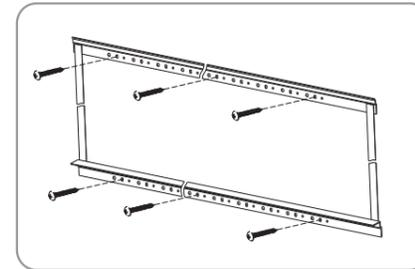

figure 11
- a. Wood wall installation: fix the top and low bracket on the wall using the $\phi 5 \times 60$ mm wood screw (3 screws on each bracket) (figure 11).